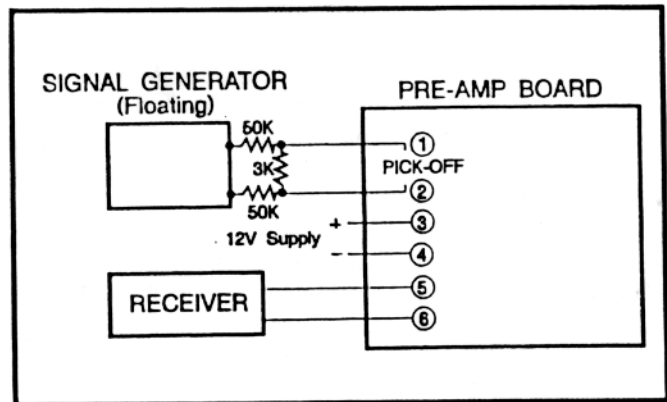

Figure 5-2 Signal Generator to Pre-amp Interface Circuit
1. Connect the test equipment to the terminal board, as shown in Figure 5-2.